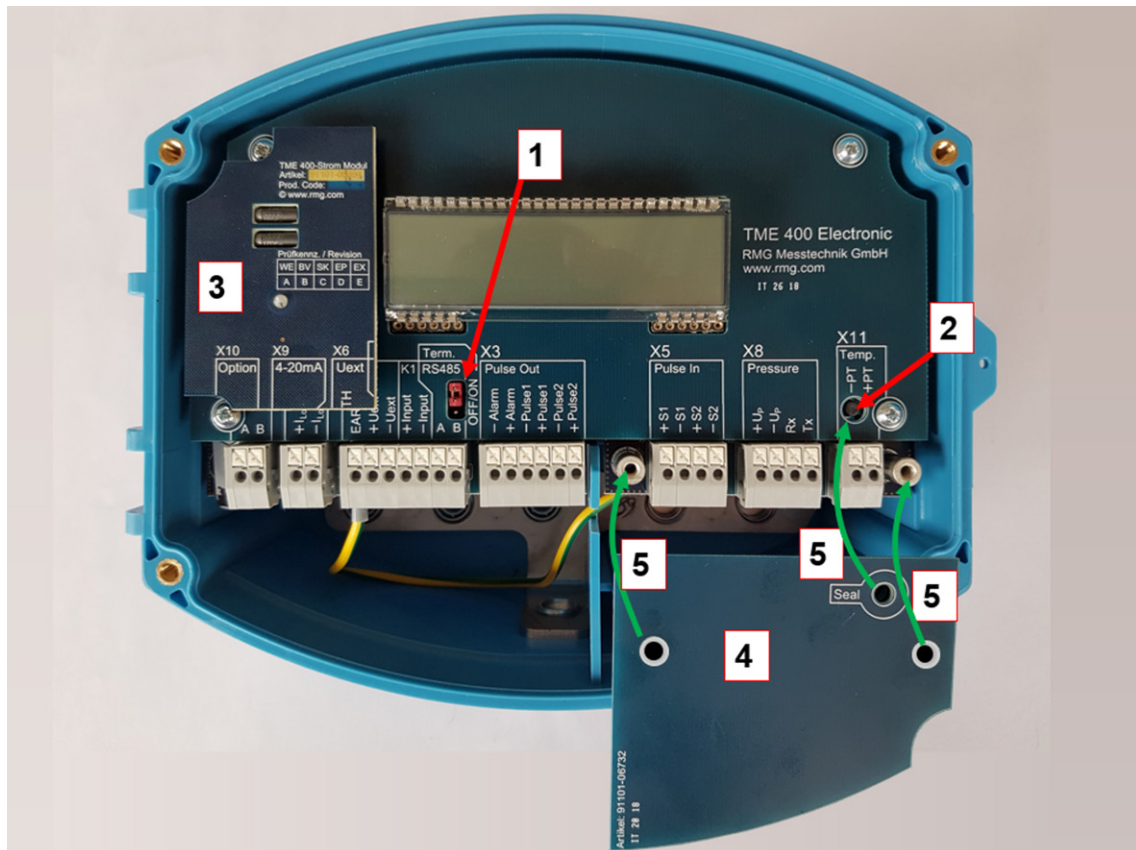

Figure 19: Electronic with power module
The power module (3) must be plugged on as shown in *Figure 19: Electronic with power module*. The current module is factory adjusted and **does not need** to be calibrated before operation.
To complete the installation, various parameters must be checked or configured. To do this, the parameter protection must be removed, either by entering the code word (see *chapter 4.3.3.10 Settings*) or by pressing the calibration button (see *Figure 19: Electronic with power module*).